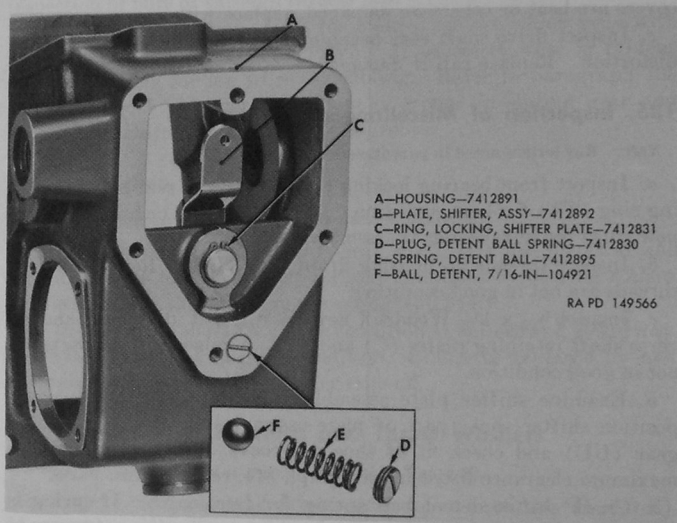

Figure 90. Shifter plate assembly installed in housing.
- (1) Remove detent ball spring plug, detent ball spring, and detent ball (fig. 90).
- (2) Using needle-nose snap ring pliers, remove shifter plate locking ring, then remove shifter plate assembly from inside housing.
a. From inside housing (L), position shifter plate assembly (SS) with plate shaft through hole in housing. Using snap ring pliers, install shifter plate locking ring (RR) in groove in shaft (fig. 90)
b. Assemble  $\frac{7}{16}$ -inch detent ball (fig. 90) detent ball spring, and detent ball spring plug in poppet well in housing. Tighten plug firmly with screwdriver.